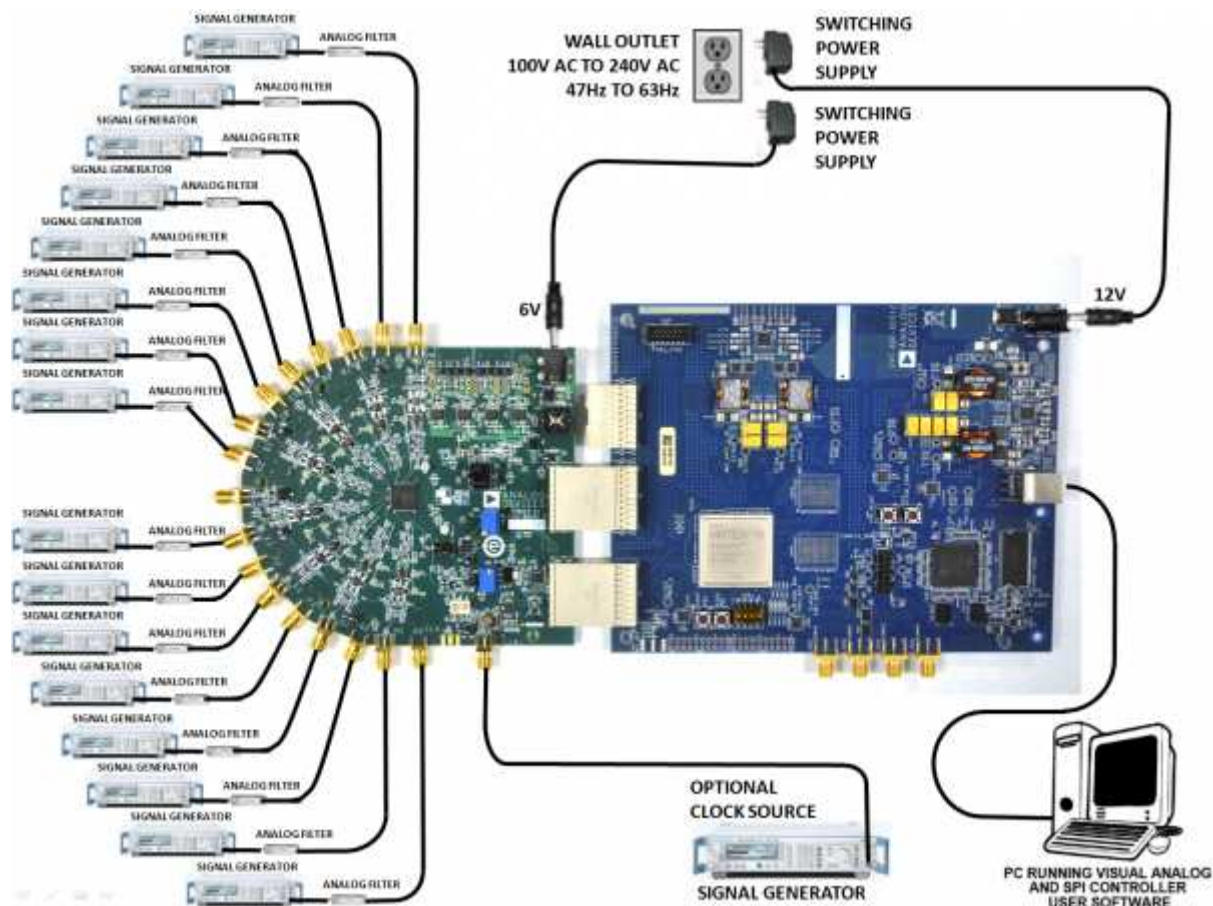

Figure 1. Evaluation Board Connection—AD9249-65EBZ (on Left) and HSC-ADC-EVALDZ (on Right)
1. Connect the evaluation board to the data capture board, as shown in Figure 1.
The evaluation board provides the support circuitry required to operate the AD9249 in its various modes and configurations. Figure 1 shows the typical bench characterization setup used to evaluate AC performance. It is critical that the signal sources used for the analog input and clock have very low phase noise (ideally ~100 fs rms jitter) to realize the optimum performance of the signal chain. Proper filtering of the analog input signal to remove harmonics and lower the integrated or broadband noise at the input is necessary to achieve the specified noise performance.